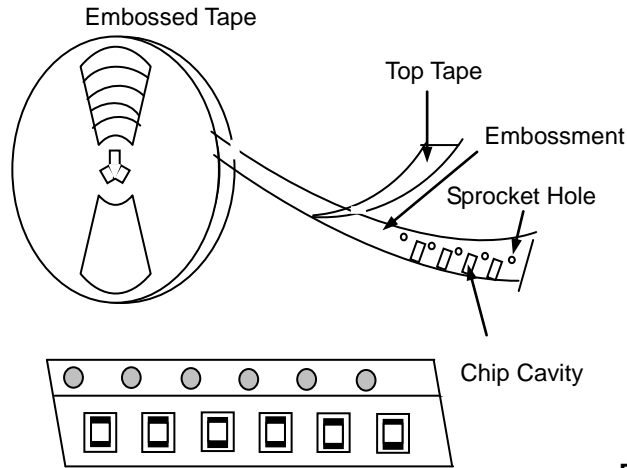

Fig 6.1-1
- a. Tape carrier packaging are specified in attached figure **Fig.6.1-1~3**